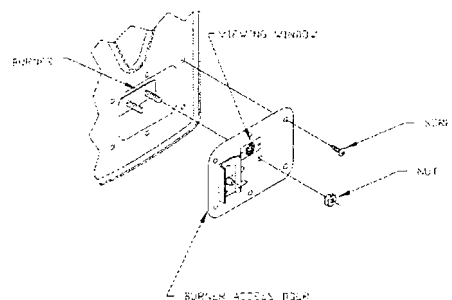

Figure 8
5. Inspect main burner. To properly inspect burner, it must be removed (See Figure 8.) If excessive rust and corrosion are present on burner surface, the burner must be cleaned or replaced. The burner may be cleaned with a steel wire brush and the burner ports and venturi blown clean using compressed air.